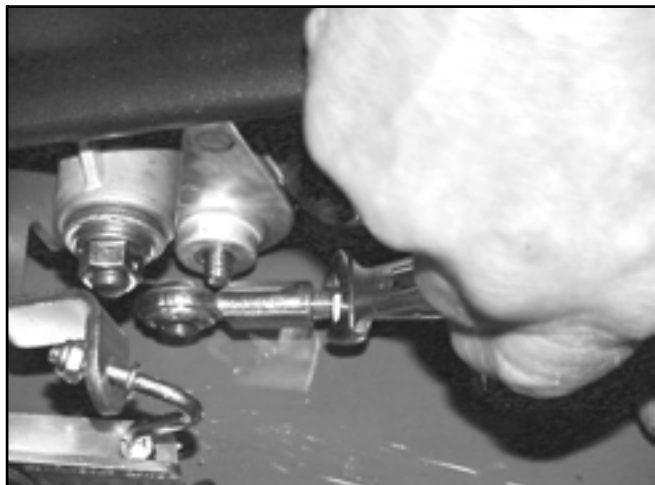

Figure 59
8. If the bolt is not aligned properly, loosen the jam nut and turn the ball joint until the holes align so the bolt on the end of the control rod enters at a right angle to the actuator arm and then tighten the jam nut (Figure 59).